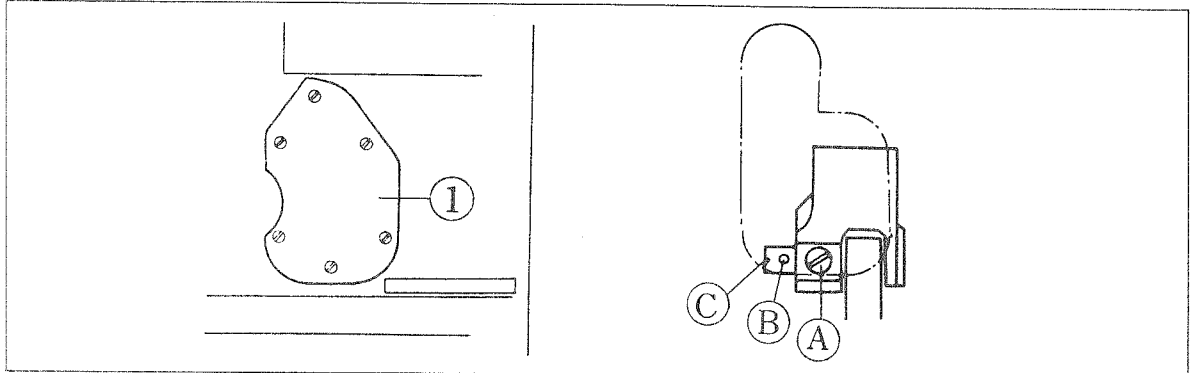

Fig. 20
If the chain looper touches the rear of the needle when the looper is moving backwards, while it provides a proper clearance at the needle during forward motion, remove rocker adjusting hole cover ①, Fig. 20, loosen screw ②, insert a 2 mm dia. pin into hole ③ and correct the looper clearance: Avoiding motion is maximized, when the mark "C" is brought toward operator. It is minimized when the mark "C" is brought to the far side from operator.